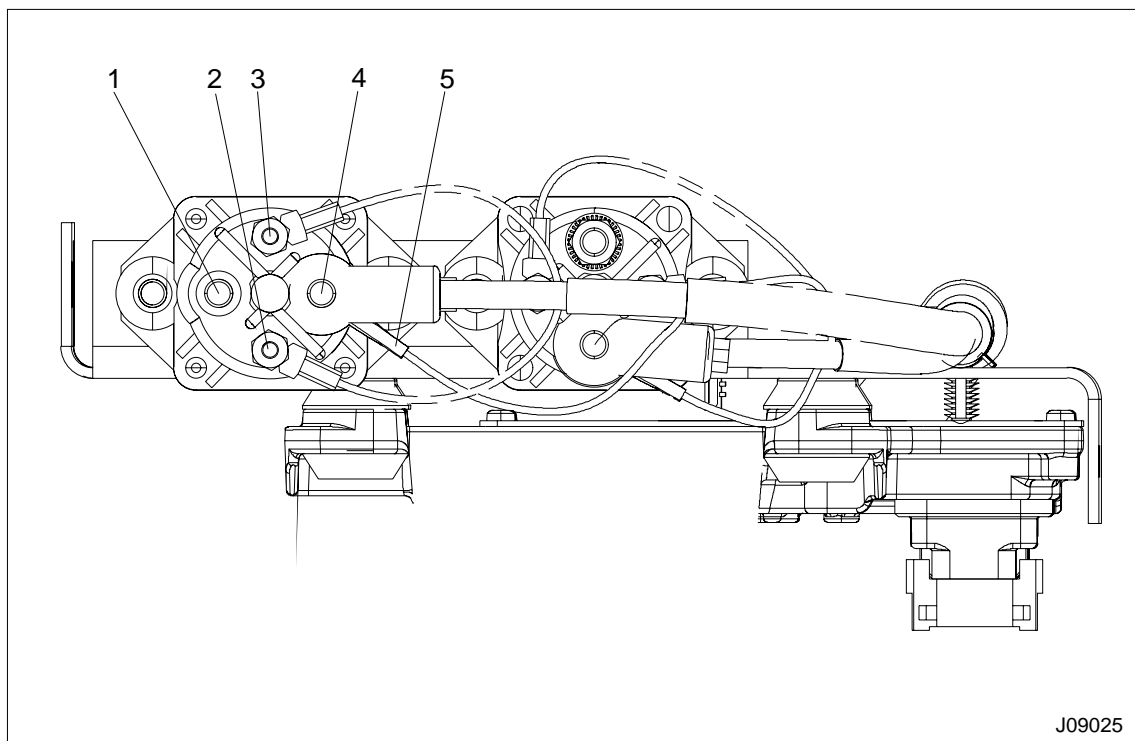

Figure 497 Intake air heater wiring connections
2. Loosen and remove battery lead from battery connection post 1 (Figure 497).
3. Loosen and remove air intake lead from air intake control post 2 (Figure 497).
4. Loosen and remove ground lead from ground connection post 3 (Figure 497).
5. Loosen and remove intake air heater relay main lead from connection post 4 (Figure 497).
6. Loosen and remove diagnostic lead from post 4 (Figure 497).